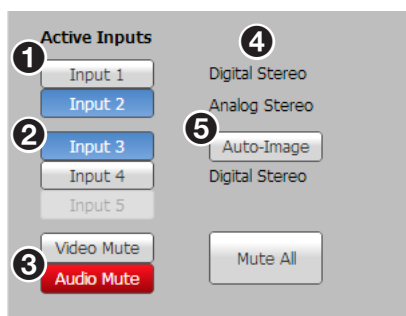

Figure 30. Active Inputs, Mute, Audio, and Auto-image
- Input 1 (HDMI) and input 2 (HDMI) form channel A (see figure 30, ❶)
- Input 3 (component/composite), input 4 (HDMI), and optional input 5 (3G/HD/SDI) make up channel B (❷)